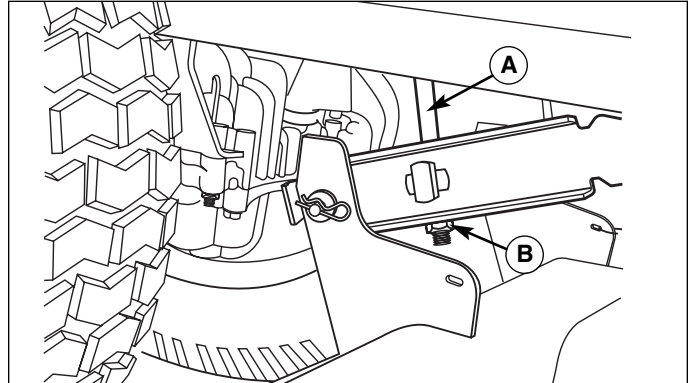

Figure 15. Leveling The Mower Side-to-Side
5. Turn the locknut (B, Figure 15) to raise or lower that side of the mower.